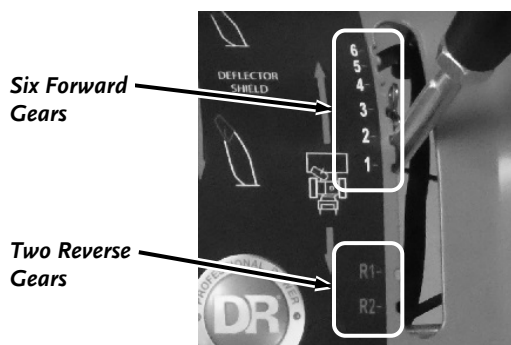

Figure 31
- The Snow Blower has six forward gears (**Figure 31**) that are labeled 1 (slowest) to 6 (fastest).